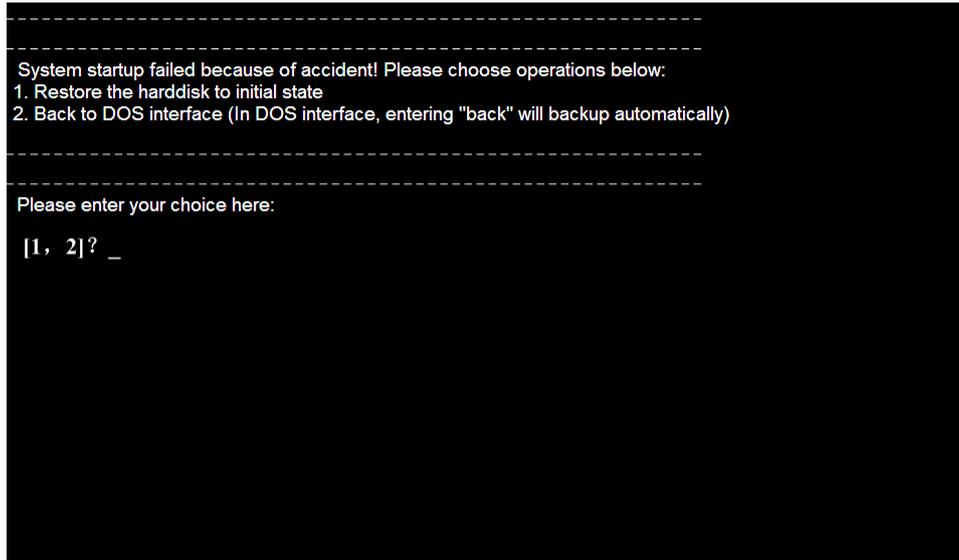

Fig. 4-5 DOS startup interface-3
- 3) After setting start orders, press F4 save the setting and restart. After normal startup, interface as shown in Fig. 4-5 will appear.